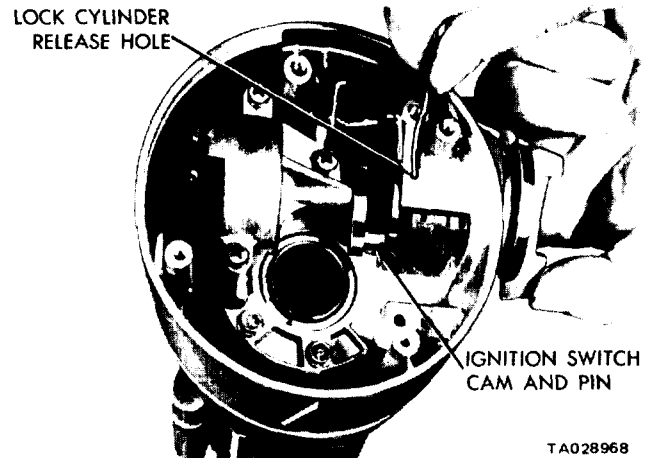

Figure 21-12. Removing Lock Cylinder.
(1) Place the cylinder in the LOCK position and remove the key. Insert a small diameter screwdriver or a similar tool into the lock cylinder release hole and push in to release the spring-loaded lock retainer. At the same time, pull the lock cylinder out of the housing bore (figure 21-12) and remove the ignition switch assembly.